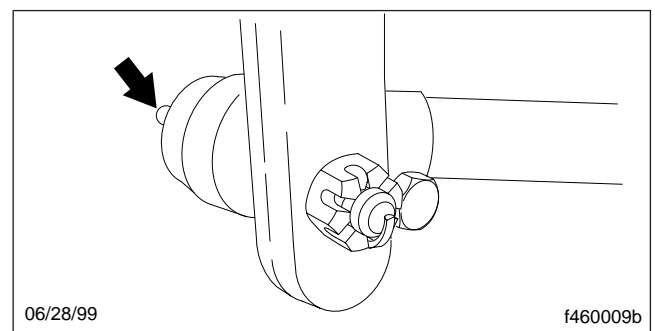
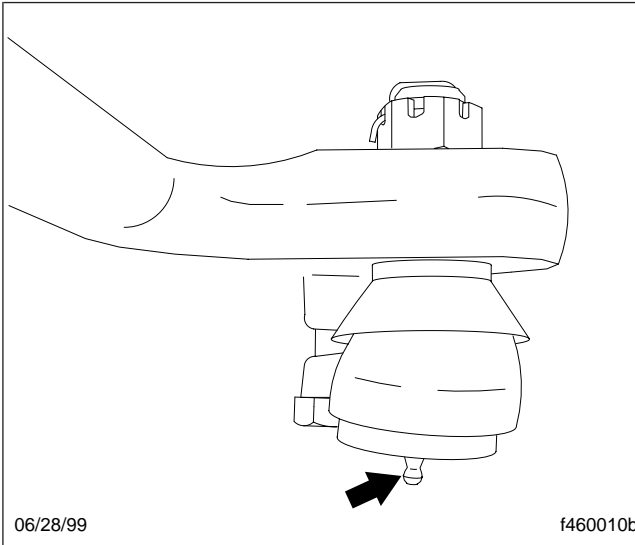
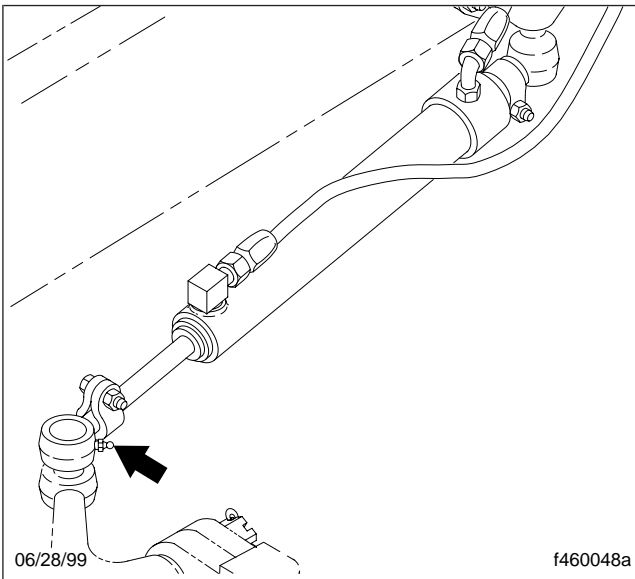

Fig. 4, Drag Link Grease Fitting (pitman arm end)
Fig. 5, Drag Link Grease Fitting (axle steering arm end)
Fig. 6, Power Steering Cylinder Grease Fitting (axle steering arm end)
1. Using a clean rag, wipe all dirt from both drag link grease fittings and, if so equipped, both power steering cylinder grease fittings. See Fig. 4, Fig. 5, and Fig. 6.